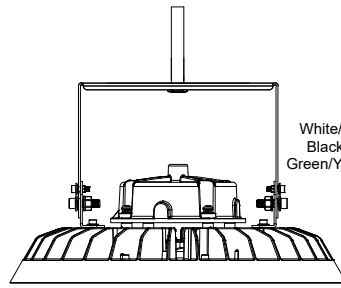

Figure 11
- ② Re-screw the nuts(Figure11)